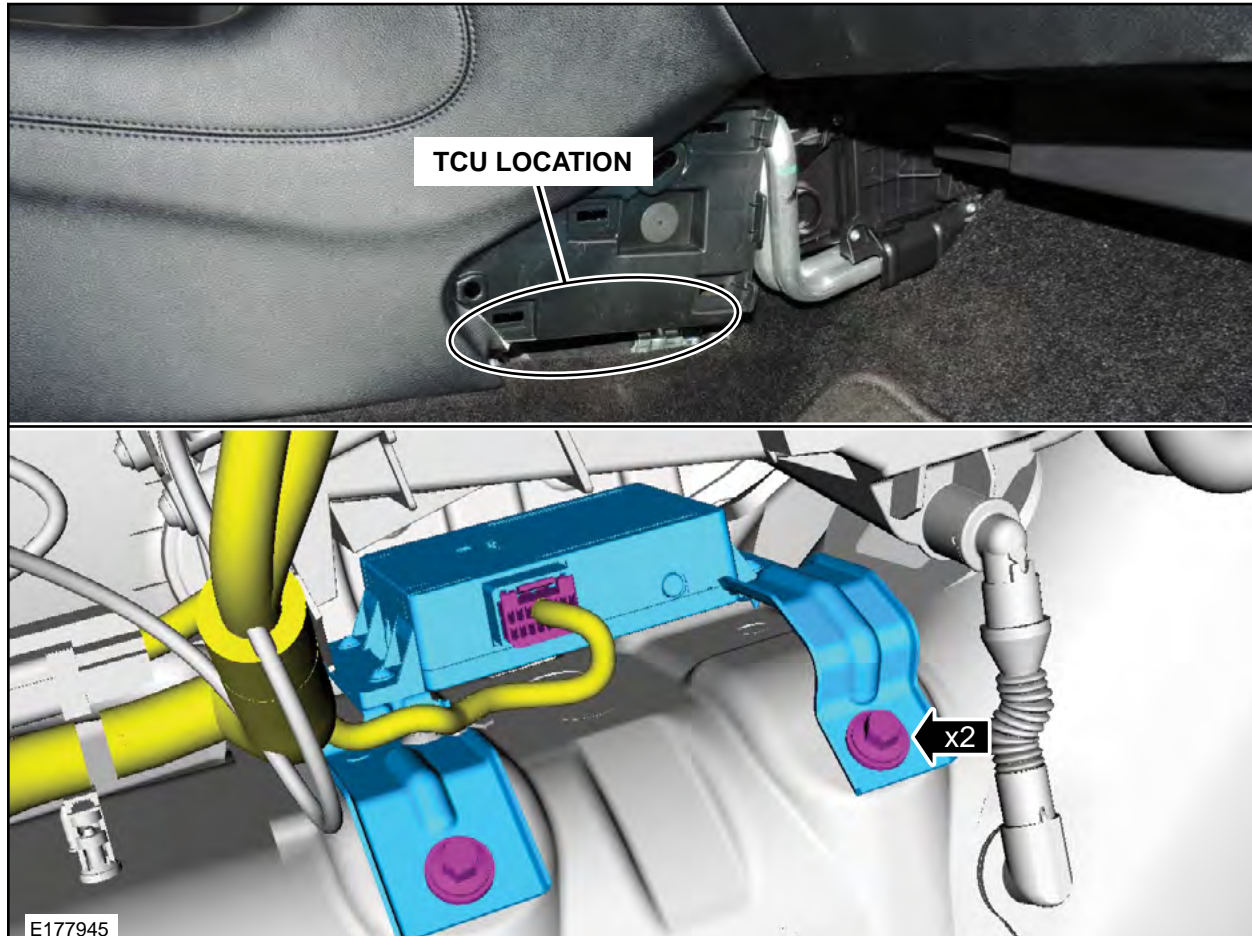

FIGURE 2
3. Remove and discard the TCU. See Figure 2.